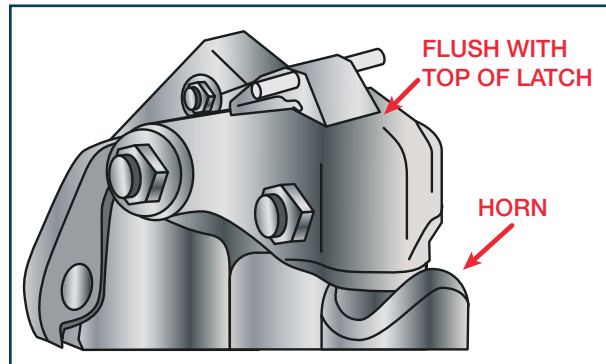

Figure 6.11
- Push the latch closed. When correctly locked, the lock handle will rotate and move up until it is flush with the top of the latch (Figure 6.11).